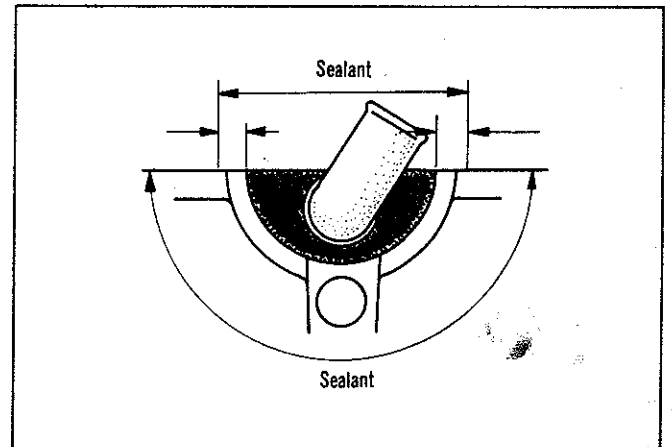

Fig. 9—Breather sealing points
(6) Install the camshaft sprocket and distributor drive onto the camshaft, rotating the camshaft to align the dowel pin to the sprocket. Ensure that the sprocket mating mark is aligned with the timing chain **plated link**. Temporarily tighten the sprocket bolt.
(7) Turn the crankshaft back 90° and tighten the sprocket bolt to the specified torque.
(8) Adjust the valve clearances to specification.
(9) Install the breather and gasket to cylinder head, applying sealer to the contact surfaces—Refer Fig. 9.
(10) Install the rocker shaft cover and tighten the retaining bolts to specification.
(11) Install the intake and exhaust manifolds using new gaskets. Apply sealer to both sides of the inlet manifold around the coolant passages. Tighten the manifold nuts to the specified torque.
(12) Install the distributor.
(13) Connect all linkages, fuel lines, vacuum hoses, breather hoses, electrical leads, radiator and heater hoses, etc.